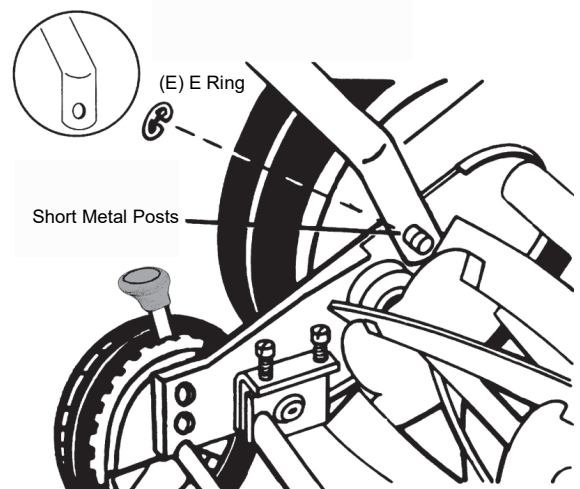

Figure 2
- As you follow the directions, refer to Figure 2.